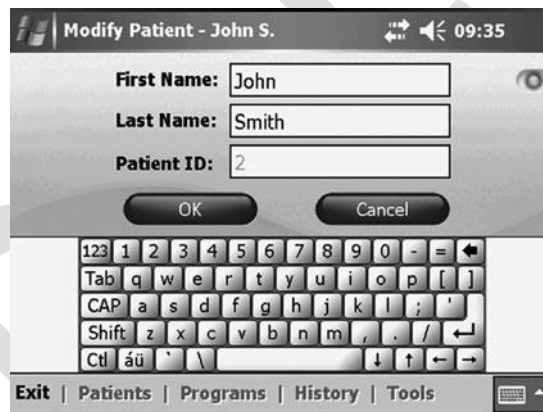

Figure 7-6. Modifying a patient record.
3. Enter changes to the patient’s first or last name, and then press “OK.” See Figure 7-6. Patient ID cannot be modified.